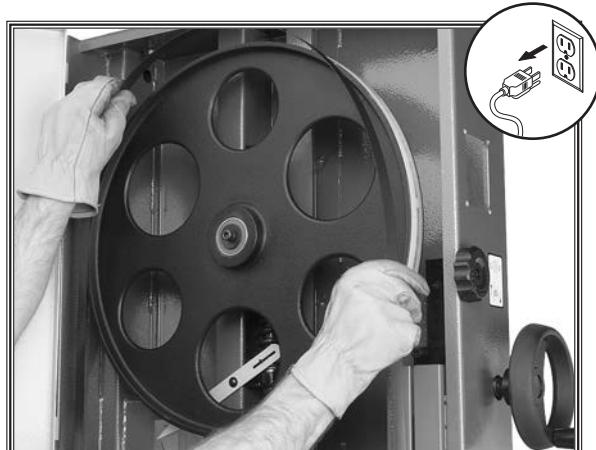

Figure 73. Example of placing blade on upper wheel.
3. Slip blade through blade guides, and mount it on upper and lower wheels (see Figure 73).